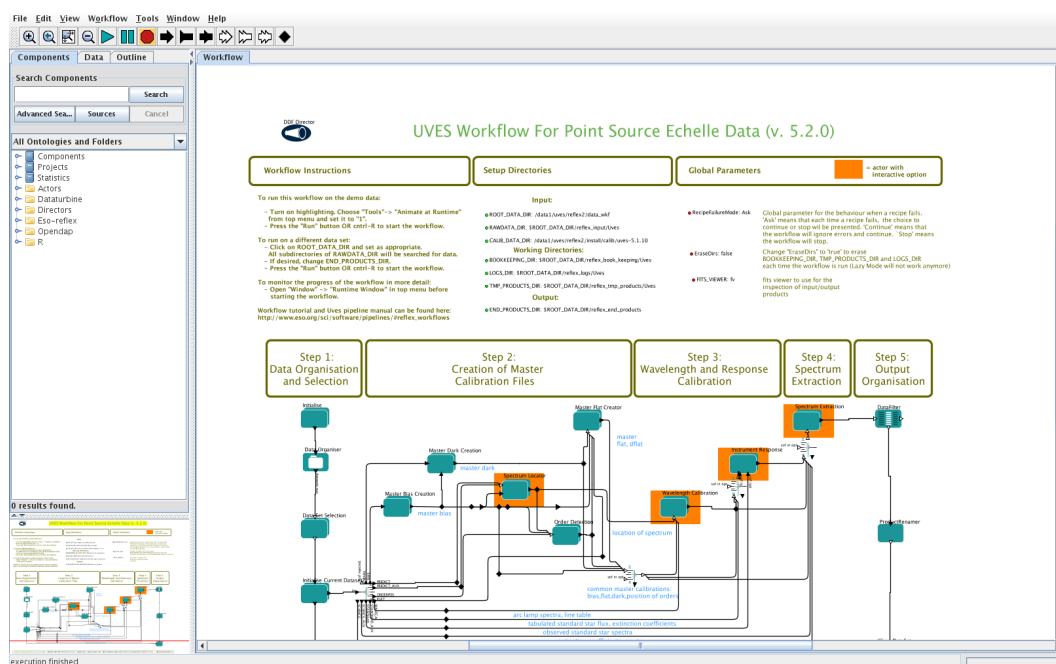

Figure 4.2: UVES workflow general layout.
2. Now open the UVES workflow by clicking on File -> Open File, selecting first `uves-5.2.4` and then the file `Uves.xml` in the file browser. You will be presented with the workflow canvas shown in Figure 4.2. Note that the workflow will appear as a canvas in a new window.